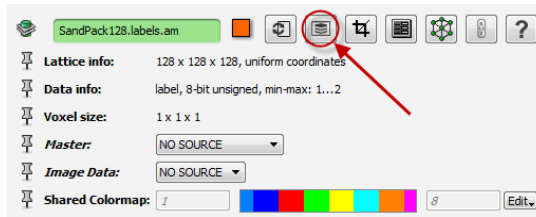

Figure 5.5: The *Segmentation Editor* button.
- In the label image property area, invoke the *Segmentation Editor* in order to access the tools necessary to clean up the labels (see Figure 5.5).